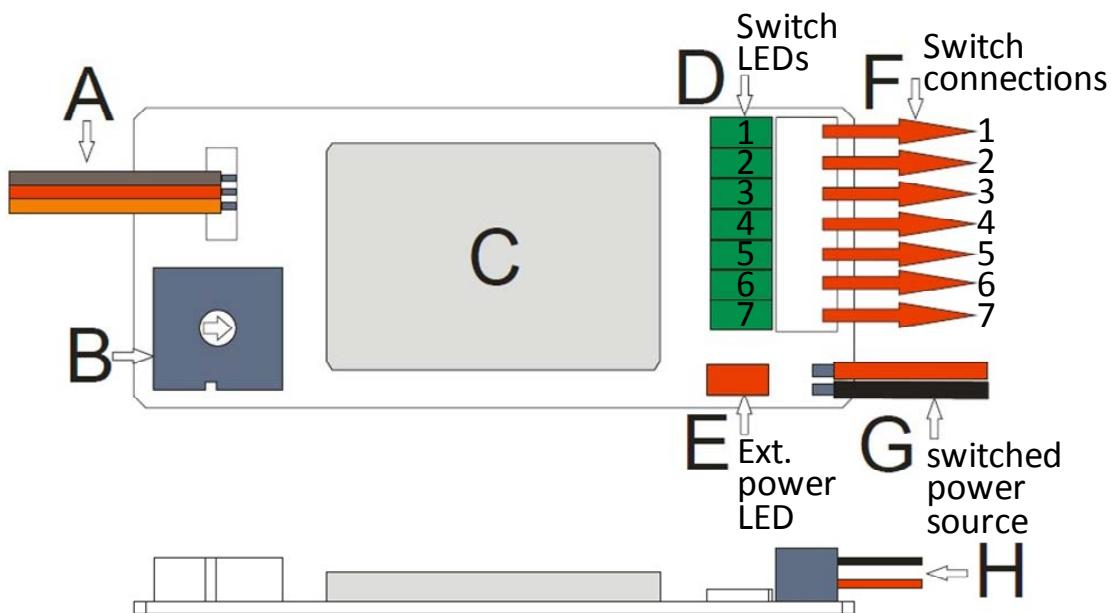

Figure 1 - MRS Physical layout
NOTE: Do not hook up the external power (Figure 1 — G/H) or any of the switch outputs (Figure 1— F) when calibrating!
- Plug the MRS servo lead (Figure 1- A) into the receiver channel that will control the MRS.
- Set the MRS dial switch (Figure 1 - B) to "0"
- Turn on the transmitter and receiver — all of the MRS LEDs (Figure 1- D) should be flashing.
- d. After the sequence finishes the switch will automatically go into the initial (0) sequence of the selected MODE (**all switches off**).
- i. The lit green LED lights (Figure 1— D) indicate which of the corresponding switches are on.
- ii. The lit green LED lights (Figure 1— D) indicate that the corresponding switch is on.
- b. Select the desired MODE on the MRS (Figure 1— B).
- c. Hook up the device(s) to be powered to the desired switch outputs (Figure 1— F).
- e. Connect external power (battery) to the MRS (Figure 1- G).
- f. The red power connected LED (Figure 1 — E) will indicate external power is on.